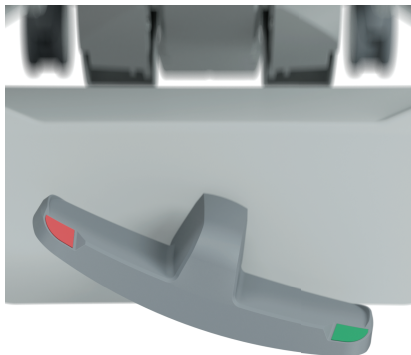

Figure 9 – Applying Steer-Lock
2. To apply the steer caster, depress the green side of the pedal (Figure 9).